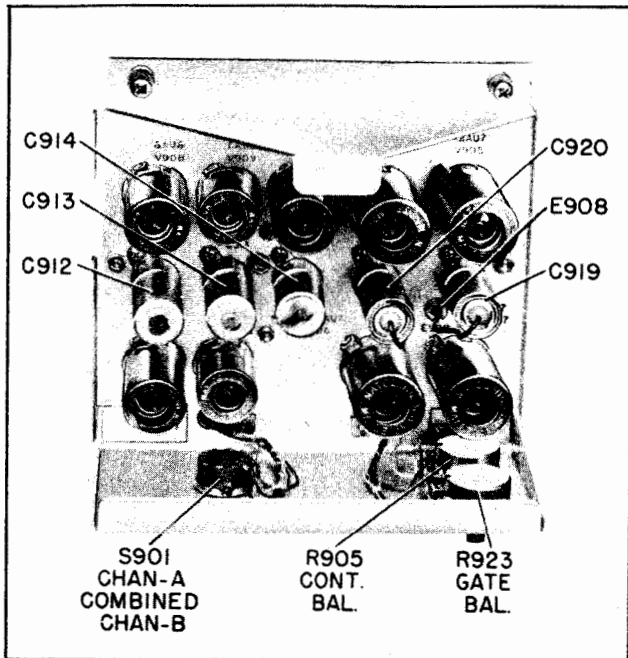

Figure 7-13. Diversity Selector Unit Chassis, Top View
g. DIVERSITY SELECTOR UNIT.—See Figures 7-13, and 7-14. Check tubes, then circuit check the unit for shorts, open circuits or off-value parts (see Figures 7-33, 7-34 and Table 7-8).